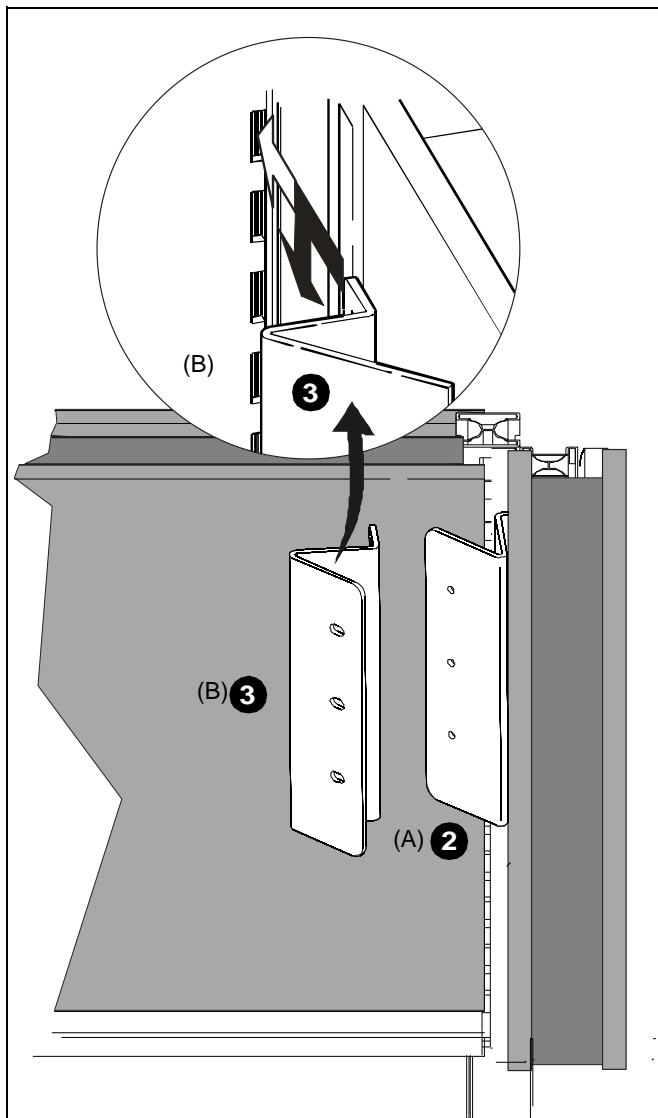

Figure 1
2. Orient *Tapped* wall bracket (A) (Tabs facing UP) as shown in figure 1 below, and install six tabs on *Tapped* wall bracket (A) into six slots in wall support.
3. Orient *Slotted* wall bracket (B) (Tabs facing DOWN) as shown in figure 1 below, and install six tabs on *Slotted* wall bracket (B) into six slots in wall support.